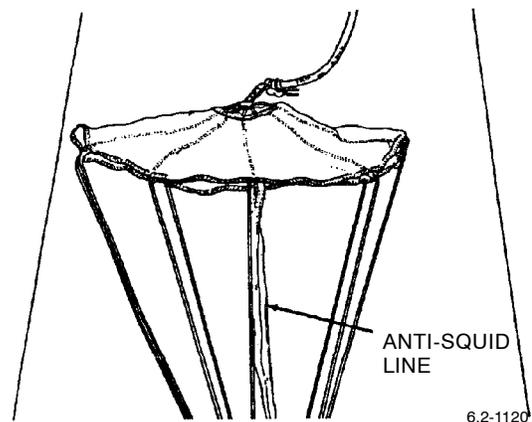

Figure 9. Stretch Controller Drogue Taut
b. Stretch controller drogue taut and form 2 groups of 5 lines each; position each group to either side of anti-squid line. Make certain that anti-squid line is retainer in central position with 5 lines on each side (Figure 9).